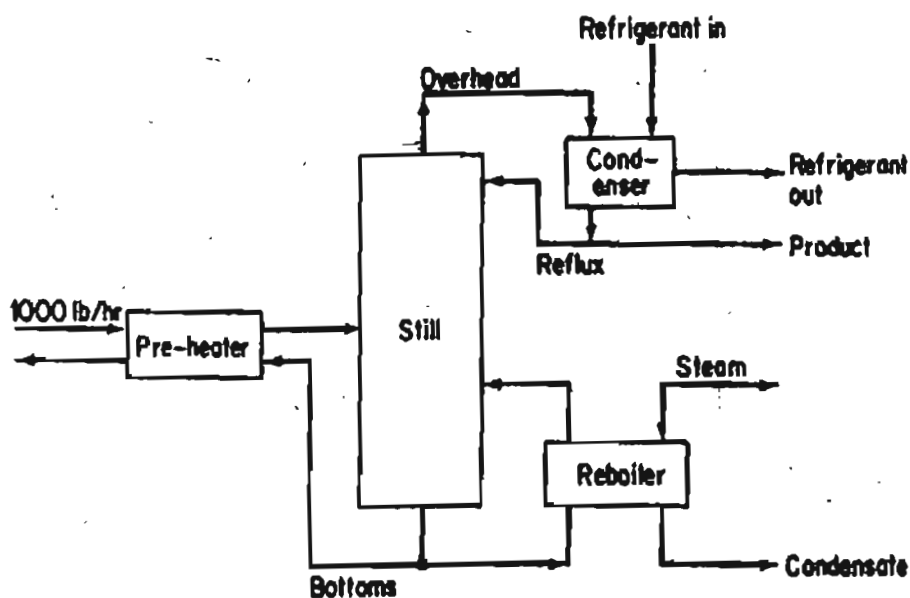

Figure P24.40
*****24.40** A distillation process has been set up to separate an ethylene-ethane mixture as shown in Fig. P24.40. The product stream will consist of 98% ethylene and it is desired to recover 97% of the ethylene in the feed. The feed, 1000 lb per hour of 35% ethylene, enters the preheater as a subcooled liquid (temperature = -100°F, pressure = 250 psia). The feed experiences a 20°F temperature rise before it enters the still. The heat capacity of liquid ethane may be considered to be constant and equal to 0.65 Btu/(lb)(°F) and the heat capacity of ethylene may be considered to be constant and equal to 0.55 Btu/(lb)(°F). Heat capacities and saturation temperatures of mixtures